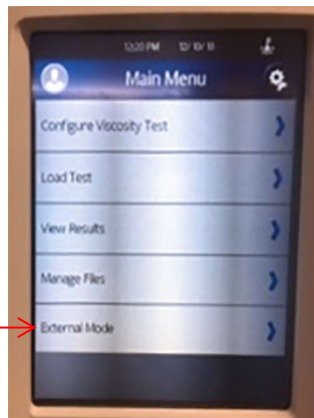

Figure 28: External Mode in Main Menu
- This opens the Main Menu. Press the **External Mode** button, as shown in Figure 28.